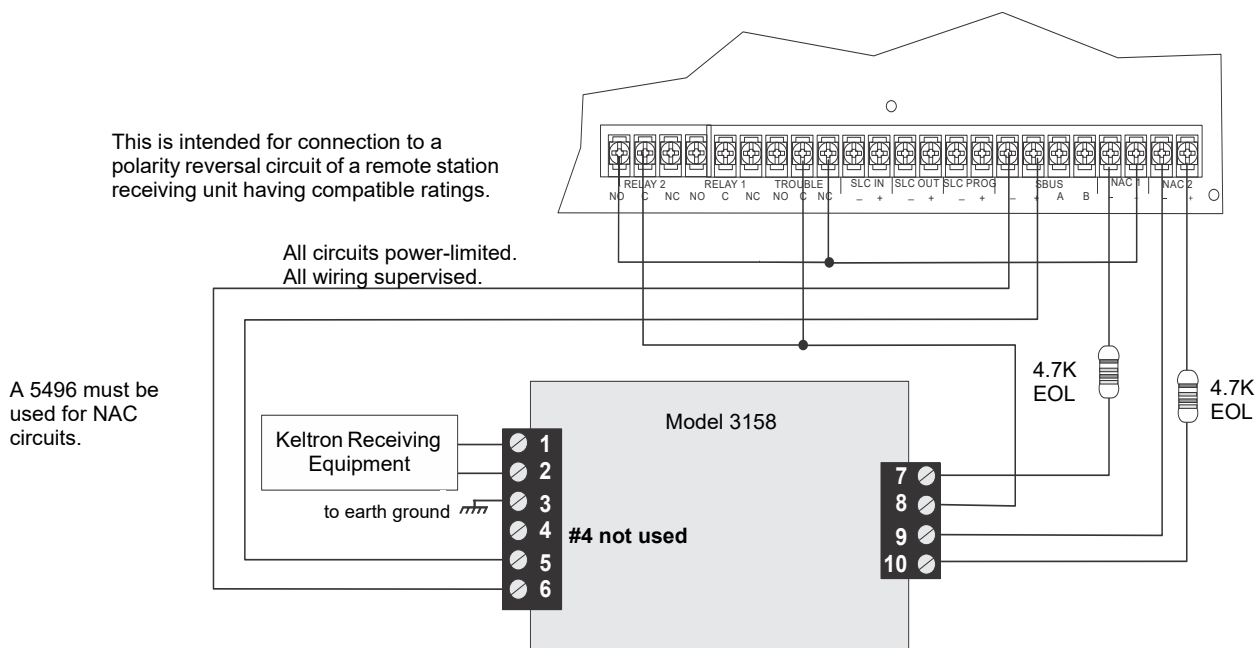

Figure 4.44 Keltron 3158 Connection to Control Panel
1. Wire the 3158 to the control panel as shown in the connection list and Figure 4.44.